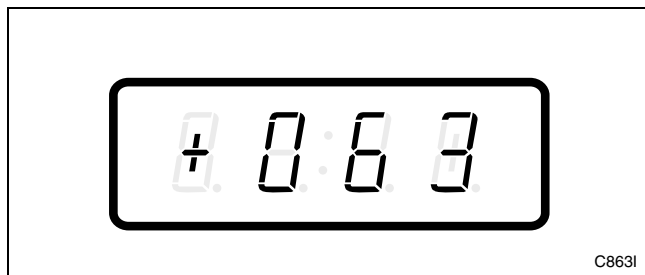

Figure 219
3. Press the LOW TEMP (+) or the NO HEAT (-) keypad to scroll through the programmable options until “+063” appears in the VFD. Refer to *Figure 219*.